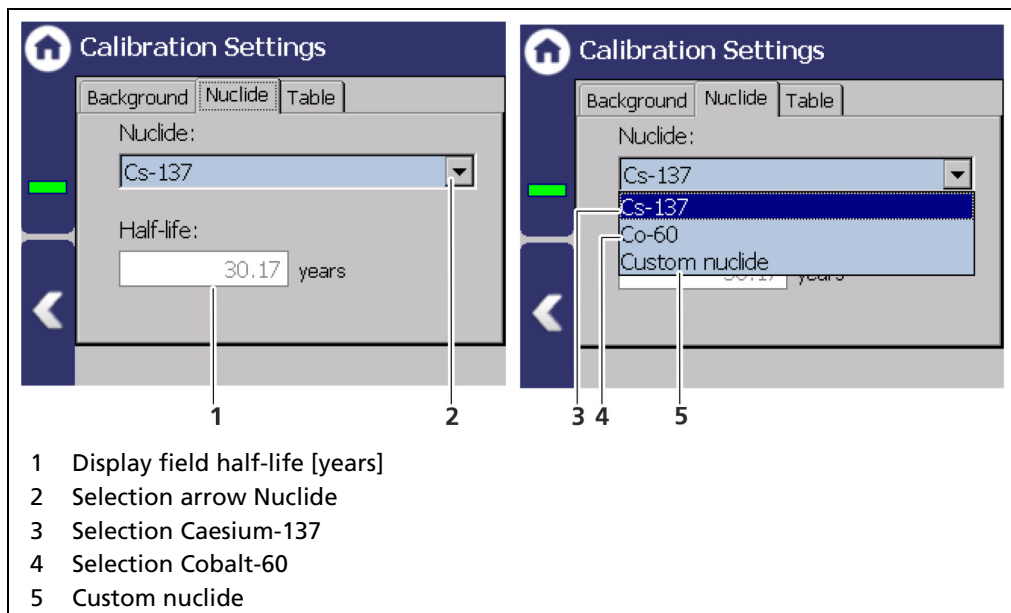

Fig. 65 Calibration settings: Nuclide
The background count rate (Fig. 65, item 1) is the natural background radiation detected by the detector and must be measured. The correct recording of the background enables correct decay compensation and influences the long-term stability of the measured value.
1. Click on the text field "Background" (Fig. 65, item 1).
2. Click on the "Read-In time" field (Fig. 65, item 4) and specify the duration of the measurement in seconds. The higher you set the measurement time, the more accurate the result.
3. Confirm with the Enter key and click on the button <Start> (Fig. 65, item 5) to start the measurement.
4. Click on <OK> (Fig. 65, item 2) to accept the count rate.